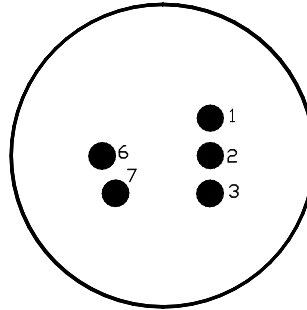

Figure 14 Sensor PCB
- Remove plug-in H₂S sensor and verify resistance between PIN 2 and PIN 3 (Shown in Figure 14) using an ohmmeter. At room temperature, the heater film's normal reading should range between 65 and 95 ohms.
- Remove plug-in H₂S sensor cell and verify resistance between PIN 6 and PIN 7 (Shown in Figure 14) using an ohmmeter. At room temperature, the sensor film's normal reading range should be 10-100 k-ohms. For sensors with an "X" in the serial number, the normal reading range should be 75 k-ohms to 2 meg-ohms. Failure would be open circuit.